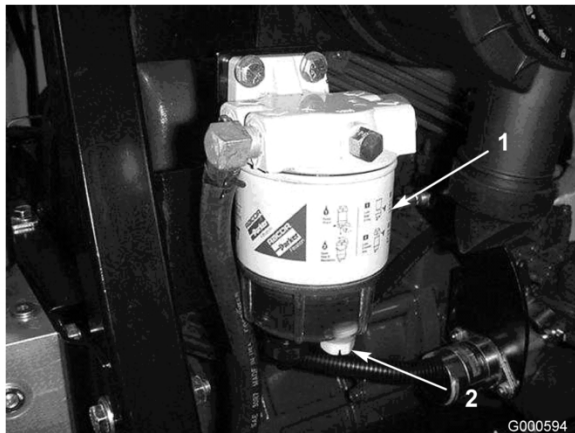

Figure 35
Drain water or other contaminants from the water separator (Figure 35) daily.
2. Loosen the drain plug on the bottom of the filter canister (Figure 35). Tighten the plug after draining.